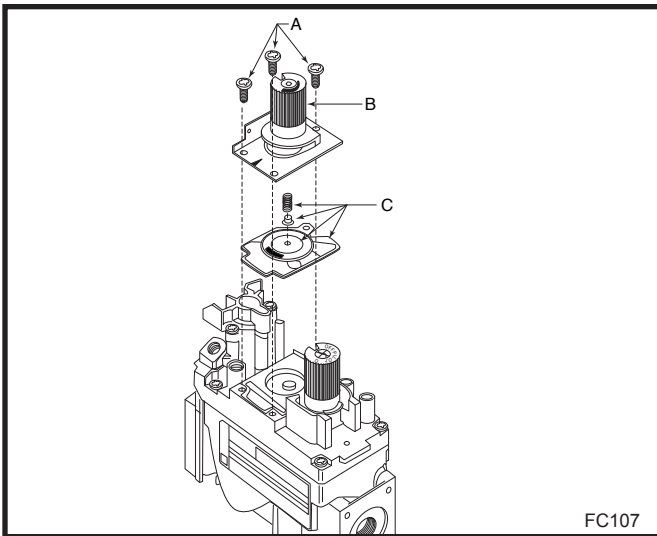

Fig. 55 Remove mounting screws, pressure regulator tower and spring and diaphragm assembly.
14. Using TORX T20 bit, remove and discard the three (3) pressure regulator mounting screws (A), pressure regulator tower (B) and the spring and diaphragm assembly (C). (Fig. 55)